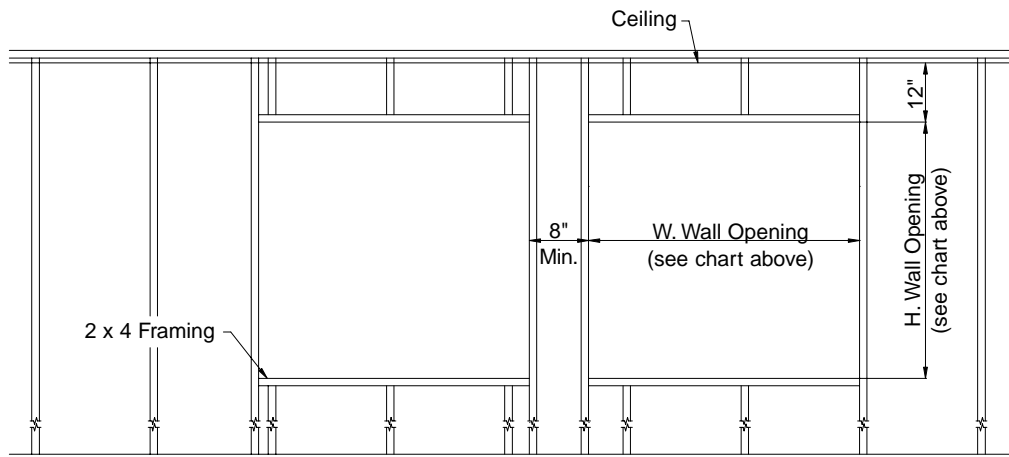

Figure 1
- 1) Construct the framed opening at correct size according to the above chart and your fan size. **See Figure 1.**